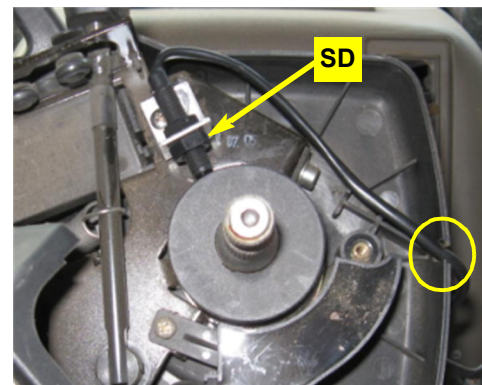

Figure 1d: Installed and adjusted switch
- e. Install switch **SD** in **SC** and adjust the sensor face to 1/8" to 1/4" from the magnetic ring (Figure 1d).
- f. Run **SD**'s cable out through the slot in the right edge of the lower plastic shroud (Figure 1d - circled).